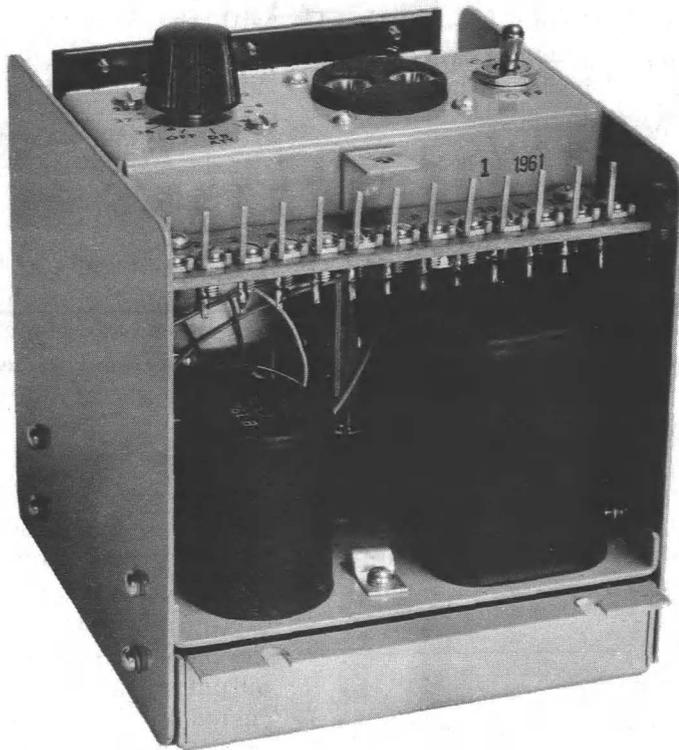

Fig. 3 - View of L1 Amplifier with Dust Cover Removed
1.15 Figs. 3 and 4 show a view of the L1 and L2 Amplifiers with the cover removed. The photographs show the location of the vernier gain adjustment in back of the monitoring jacks, the attenuator, power switch and terminal strip. The L3 Amplifier appears the same as the L2 Amplifier.